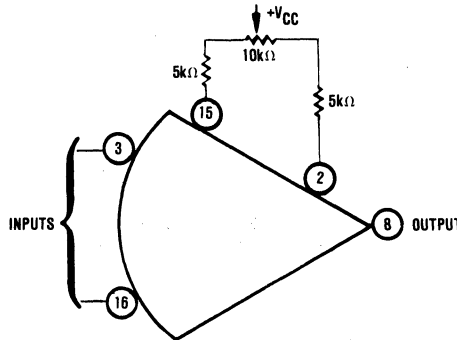

FIGURE 3. Offset Null Circuit.
3.3.2 Offset error null. The amplifier is capable of being nulled to zero offset voltage using the circuit in Figure 3. If nulling is unnecessary for the application, delete the three components and make no connections.